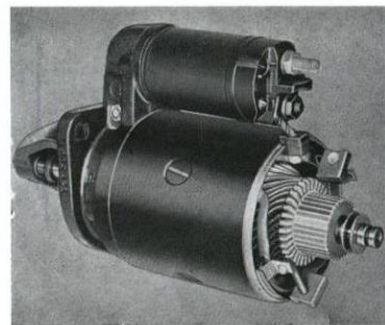

Fig. 3-82. Starter motor with brush bridge removed
8. Fit the washers on the armature shaft as shown in Fig. 3-82.